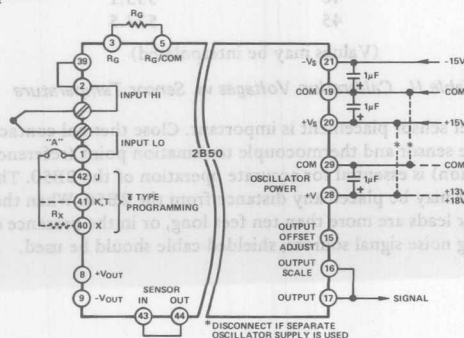

Figure 2. Basic 2B50 Application
The connections shown in Figure 2 are common to most applications using the 2B50, and, in many cases, will be all that is required.
Two sets of parallel thermocouple input connections are provided. The thermocouple input may be connected by screw terminals (Input+, Input -) or to terminal Pins 1(-) and 2(+) in cases where thermocouples are to be remotely terminated. The following sections describe a basic thermocouple application, as well as detail some optional connections to enhance performance in more demanding applications. Jumper A (Figure 2) is used to disconnect cold junction compensation circuitry during offset adjustments.
The gain of the 2B50 is set by a user-supplied resistor (R_G) connected as shown in Figure 2. Gain will normally be selected so that the maximum output of the signal source will result in a plus full scale output swing. The resistor value required is determined by the equation: $R_G = 200k\Omega / (G-1)$.
2. Disconnect cold junction compensation circuitry by removing Jumper "A" (Figure 2).